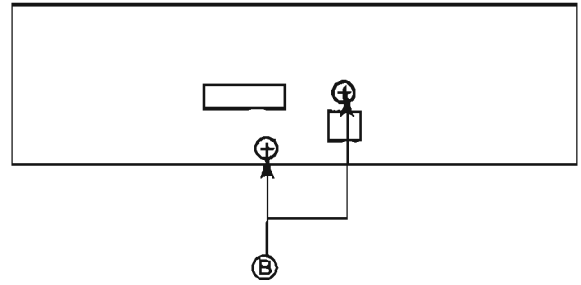

Fig.2
- (1) The level of RF output (EFM output: amplitude of eye pattern) will be low.
- (2) The drive current required by the laser diode will be increased. In such a case, check the life of the laser diode following the flowchart below.
(3) Measurement of laser diode drive current (Fig.2)
(Fig.2)